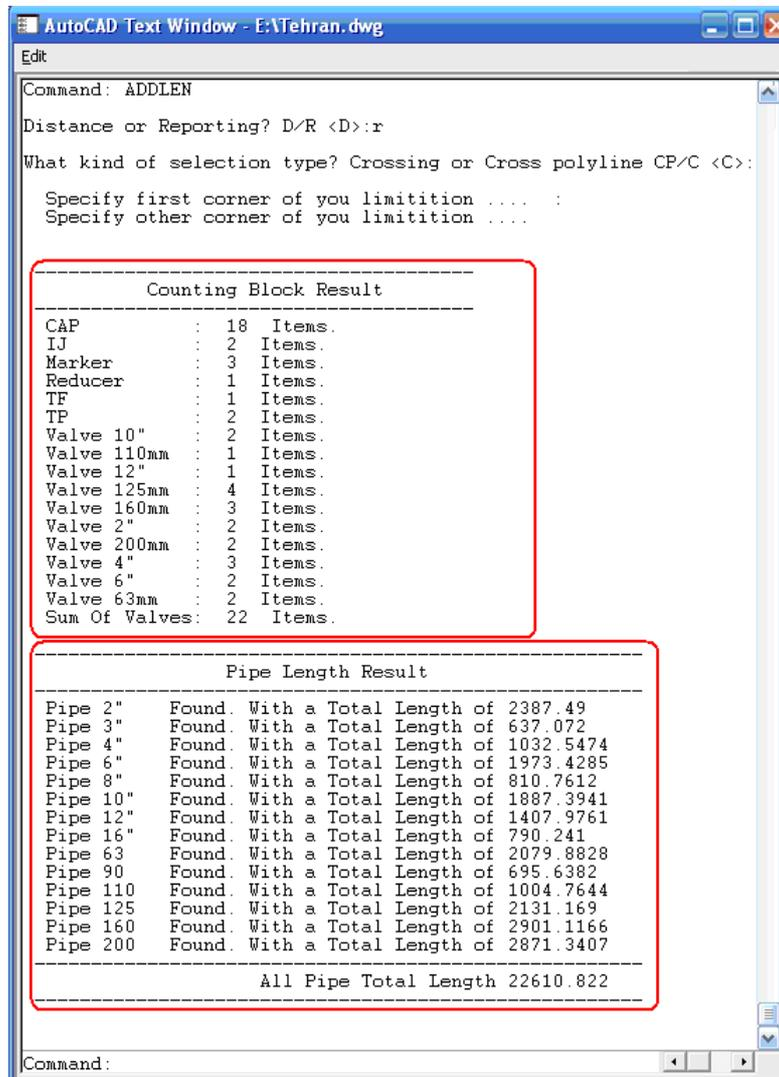

Figure 18
Other report is made of selecting a region and software filter unnecessary objects such as dimensions, street lines, lane lines, river regions and so on. Now, only gas elements and gas line remain in collection. Then “City Layout – Gas” loops between objects and in command window writes sum of all elements by categories. Figure 18 shows a real report of a region of a gas map city.
- Figure 18 : Reporting distance and counting elements in command window.